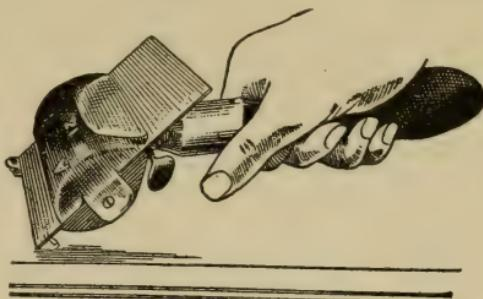

FIG. 70
**Varieties of Scrapers.**—There is a new scraper in the market which is said to be superior to anything made in the scraper line. A representation of it is shown in Fig. 70, which is taken from an advertisement. I do not know of my own knowledge